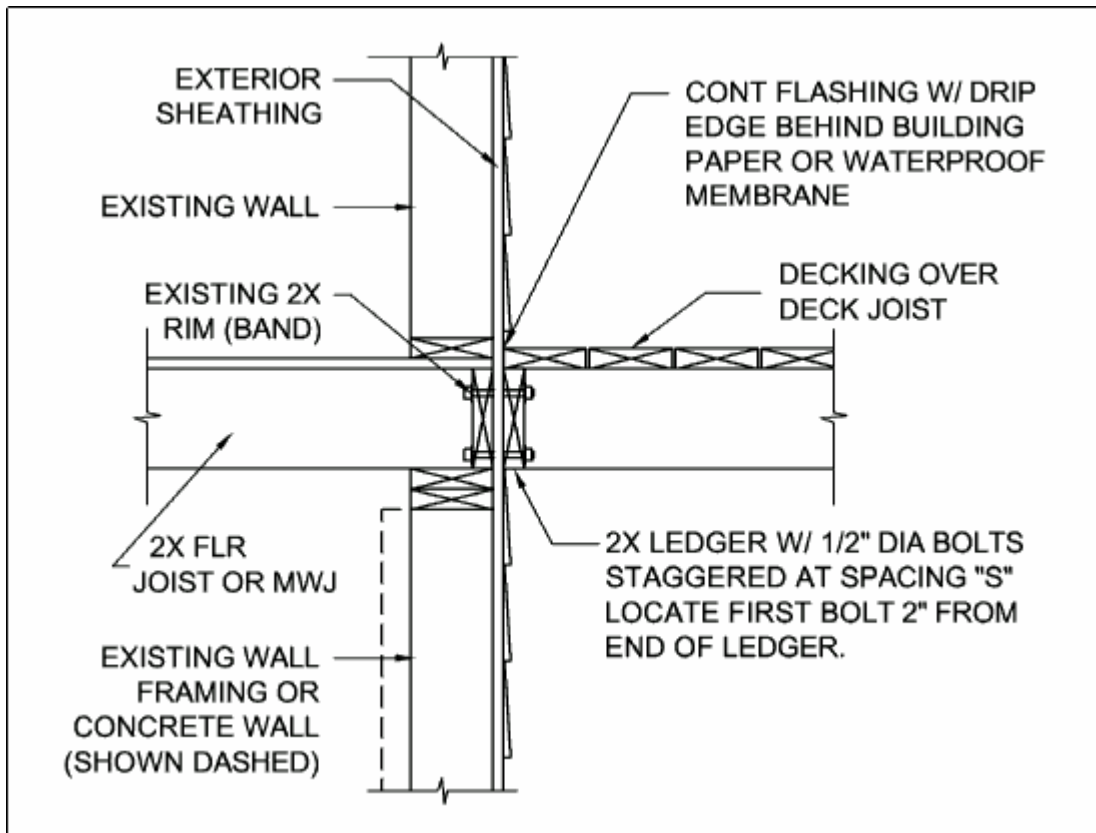
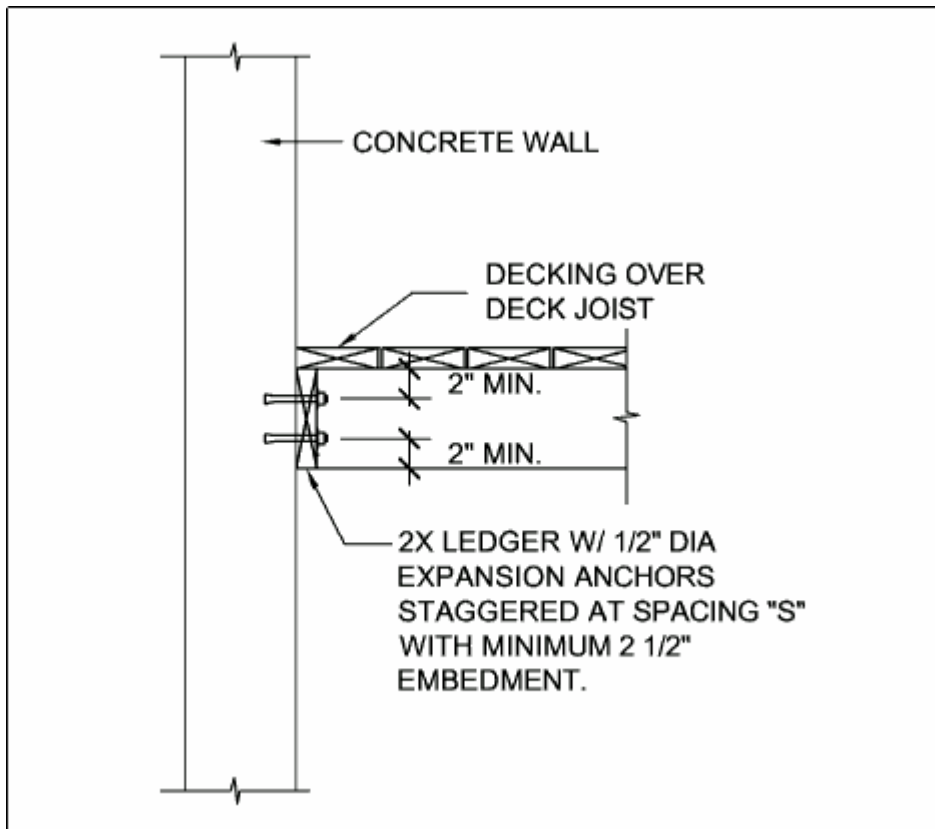

Figure 6 – Attachment of Ledger Board to Band Board with Bolts.
Figure 7 – Attachment of Ledger Board to Concrete Wall.
7. Determine if you will be connecting to a band board (rim joist), see Figure 5; a concrete wall, see Figure 6; or a sill plate, see Figure 7. Note: This document cannot be used with masonry walls.
Expansion (Wedge) Anchors: Use expansion anchors when attaching a ledger board to a concrete wall as shown in Figure 7. Bolt diameters of the anchors shall be a minimum of $\frac{1}{2}$ "; in some cases, this may require an anchor size of $\frac{5}{8}$ ". Minimum embedment length shall be $2\frac{1}{2}$ ". Expansion anchors must have washers.